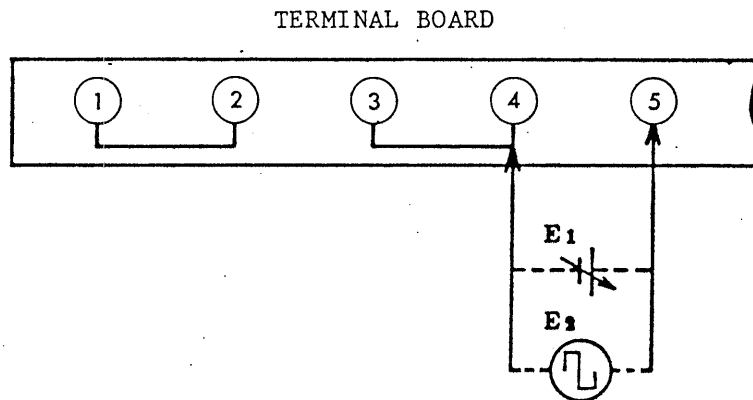
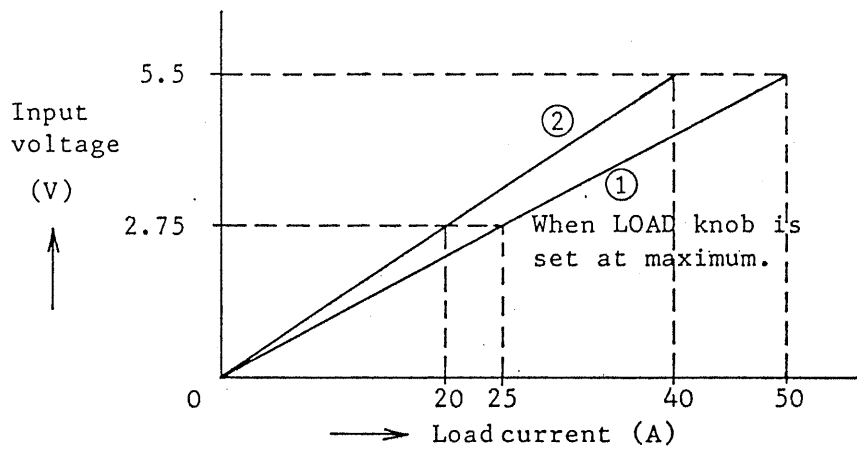
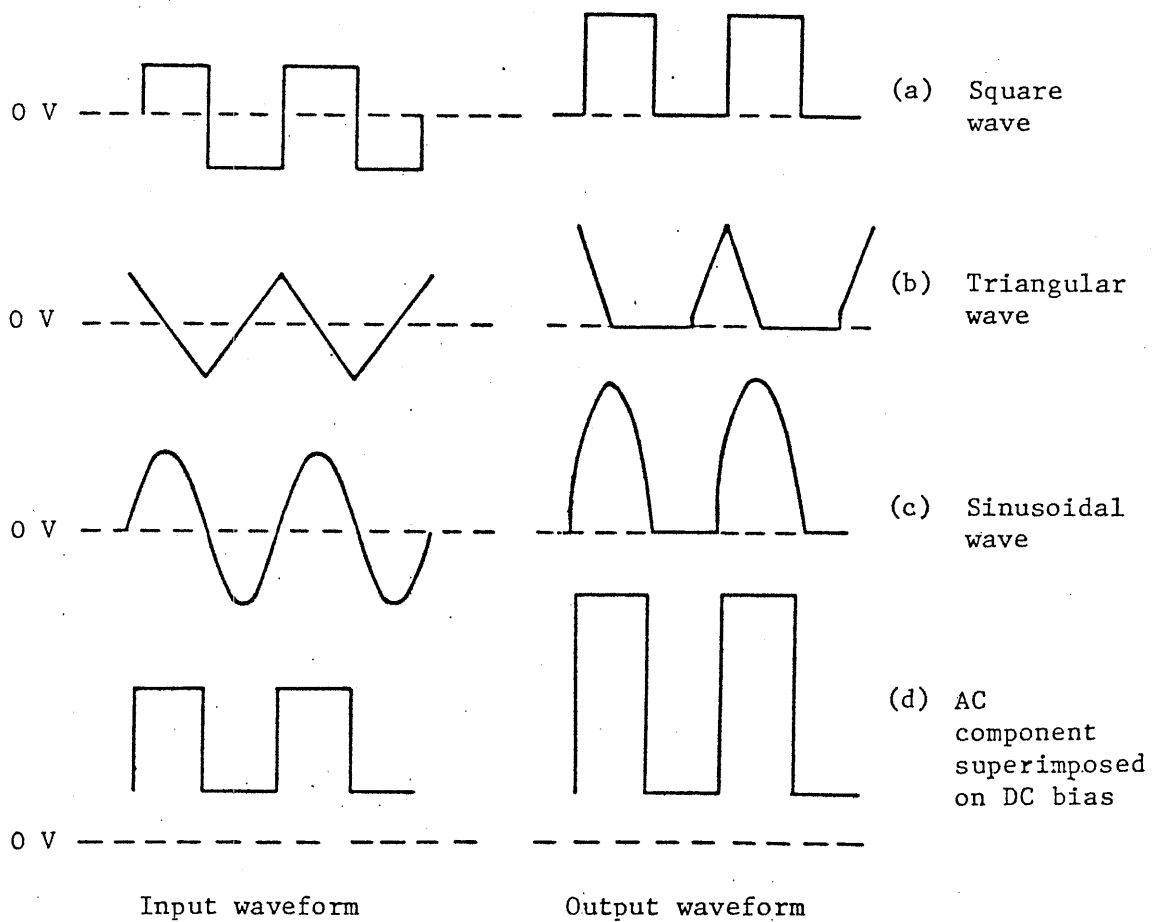

Figure 10
Figure 11
Figure 13
For this mode of operation, apply a signal between terminals ④ (-) and terminal ⑤ (+) as shown in Figure 10. With this setup, the device operates in the constant-current mode. The input resistance in this case is approximately 15 k Ω .
Connect a variable DC voltage source (E_1) as shown in Figure 10. With this setup, when the LOAD knob on the front panel is set in the clockwise extreme position and an input voltage of 5.5 V is applied, the current becomes approximately 50 A. The current can be controlled with the input voltage (E_1) as shown in Figure 11.
By adjusting the LOAD knob, the current for the 5.5 V input can be set to a value lower than 50 A. When setting is made as represented with line ② in Figure 11, the current for 5.5 V is 40 A and that for 2.75 V is 20 A.
The current of the device can be controlled with an external signal of one of various different waveforms as well as with a DC signal as explained in 4.5.1. For this operation, connect E_2 instead of E_1 in Figure 10. A signal of any waveform can be used -- sinusoidal, square, triangular, etc. Note, however, that the current is controllable only within the positive range of the oscillator output. (See Figure 13).